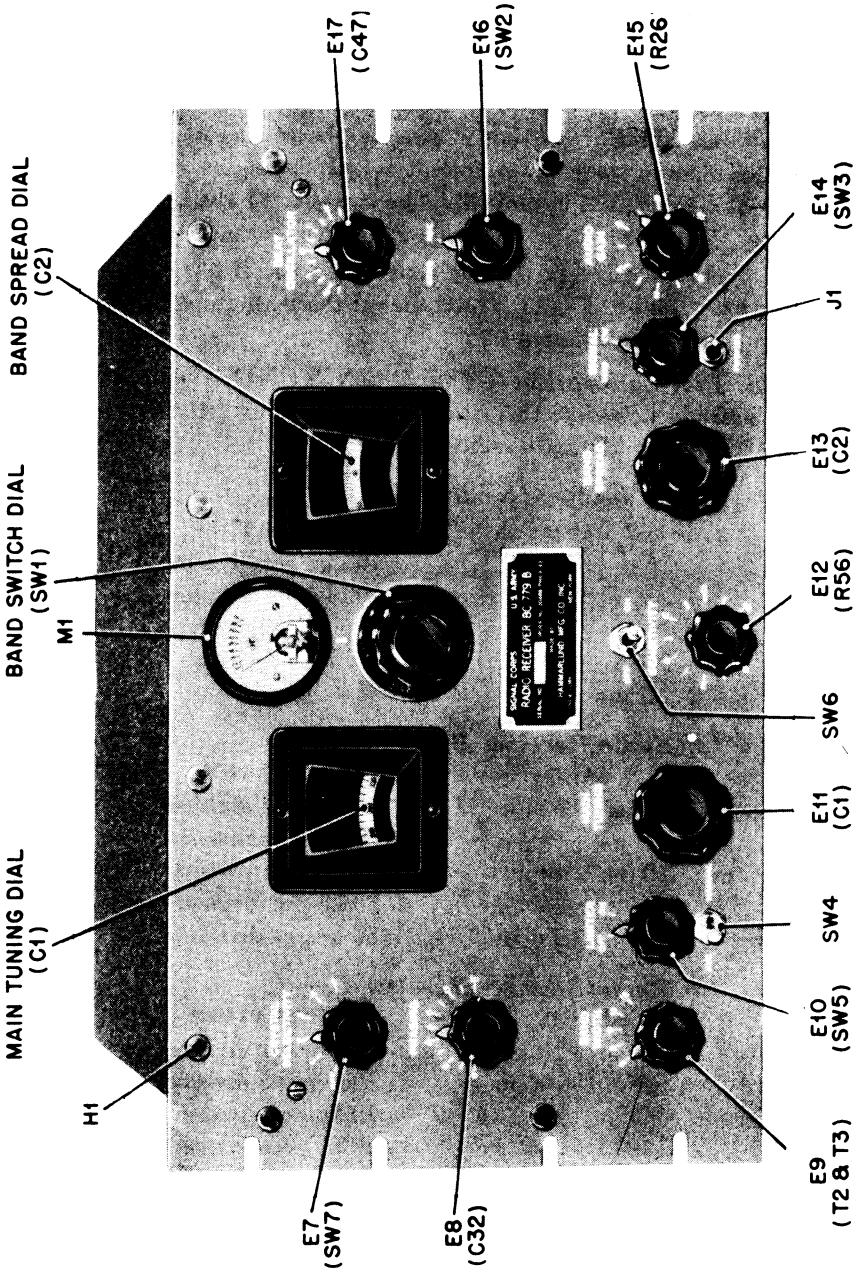

Figure 4. Radio Receiver BC-779-B
4. FREQUENCY BANDS.—The five frequency bands are marked in aluminum on the band-switch dial (FIG. 4). A large number of earlier models of this receiver already in the field can be identified only by the different frequencies shown on this dial. You can get the frequency band you want by turning the knob right or left until the band is on top (just beneath the up-and-down line above the dial).
b. Besides the markings on the band-switch dial (FIG. 4), a mask with windows shows a calibrated scale on the MAIN TUNING dial (FIG. 4) to correspond with the band selected by the band switch. This operation is automatic—when you turn the band switch, the mask on the MAIN TUNING dial turns with it since they are geared together.
c. Band Spread.—A separate BAND SPREAD control (E13) gives you simplified tuning over a narrow range of frequency. The BAND SPREAD dial (FIG. 4) has a scale reading from 0 to 100 through about 170°. If set at 100, the frequency covered by moving the dial will extend from that shown by the setting of the MAIN TUNING dial to some lower frequency, depending on how far the BAND SPREAD dial is moved. The capacity of the band-spread capacitor (C2) increases as the scale approaches zero (0).
(1) To cover a specific range with the BAND SPREAD dial, first set the MAIN TUNING dial at the high-frequency end of the band you want to spread.
d. Earphones.—Plug your Headset HS-30 into the PHONES jack (J1, FIG. 4) in the lower right hand corner of the front panel of the receiver. Or you can connect the headset to the screw terminals marked PHONES on the rear edge of the chassis.
f. Earphone Operation.—For earphone operation, plug your earphones into the PHONES jack (J1, FIG. 4) provided for them on the front panel. Or you can connect the earphones to the PHONES terminals on the rear of the receiver chassis. These terminals are connected in parallel with the jack on the front panel.
g. S-Meter Tuning.—The S-meter (M1, FIG. 4), a tuning guide, operates only when the receiver is set for AVC. Its reading will increase as the receiver approaches resonance with the incoming signal. Exact resonance is shown by the greatest reading of the meter. The BAND WIDTH control must be set at 3 for accurate tuning by means of the meter.
(1) A screwdriver adjustment (R41) at the rear of the chassis near the second detector diode varies the resistance in shunt with the meter. By means of this adjustment, an S9 reading may be obtained on any input between approximately 10 and 10,000 micro-volts. The normal factory adjustment is made on an input of 50 micro-volts, and when so adjusted each "S" number represents a change in signal input of approximately 6 decibels.